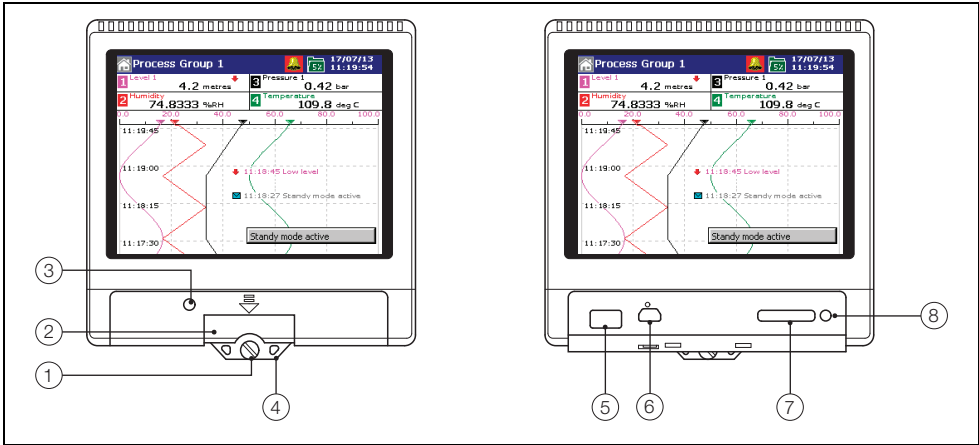

Fig. 5.1 Front panel features
Key to Fig. 5.1:
- Do not remove media when the archiving active indicator light is lit – see Fig. 5.1, page 24.